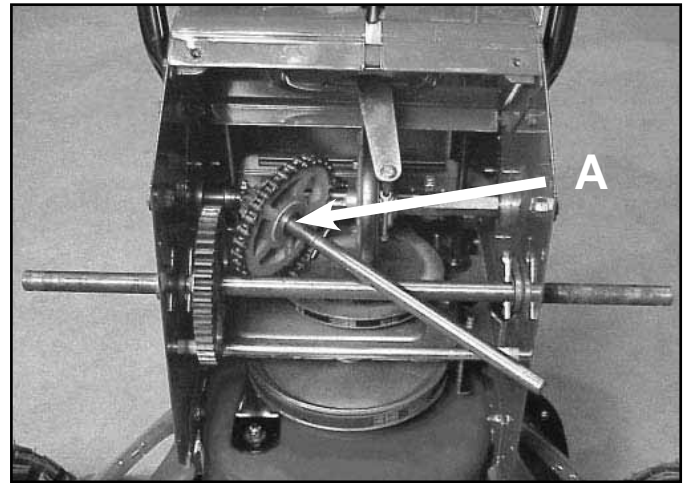

Fig 102 MVC-771X.jpg
4. Pull the right hand end of the shaft out of the traction housing. Optional: The chain contains a master link, which also can be removed (Fig. 102).
Note: There is a thrust washer that may stick to the bushing on the sprocket (Fig. 102).